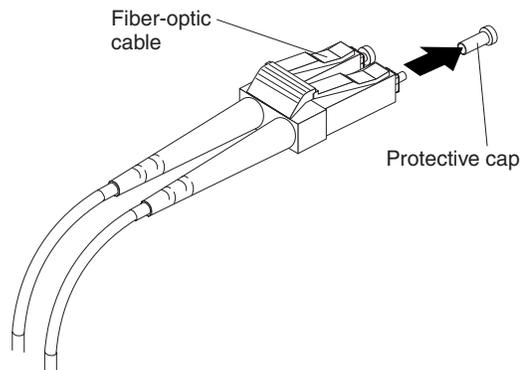

Figure 30. Removing fiber-optic cable protective caps
3. Remove the two protective caps from one end of the LC-LC cable, as shown in Figure 30. Save the protective caps for future use.
5. Remove the two protective caps from the other end of the LC-LC cable, as shown in Figure 30 on page 35. Save the protective caps for future use.